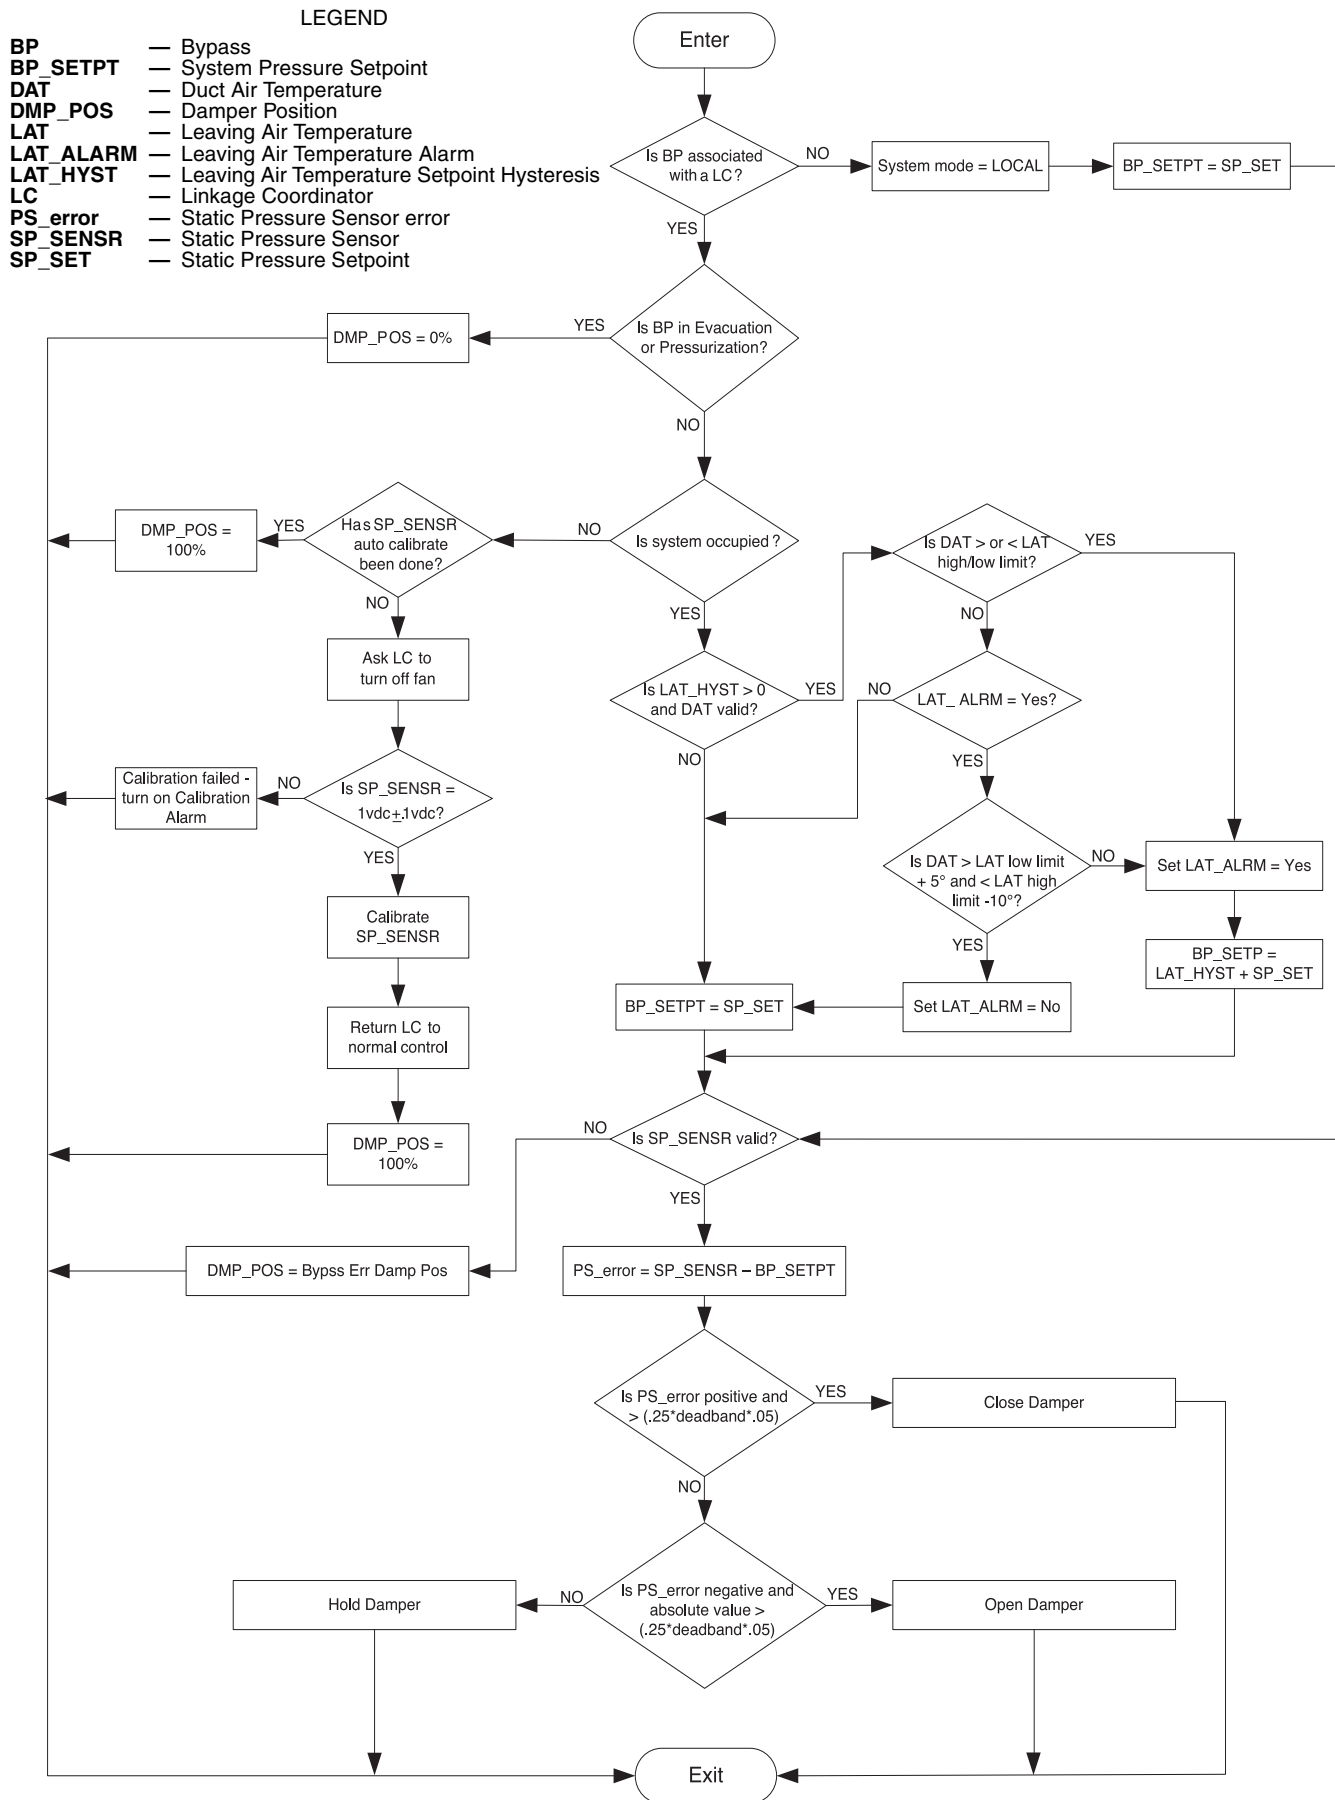

**Fig. 12 — Bypass Controller Operation Flow Chart**
**NORMAL OPERATION** — The bypass controller will modulate its damper to maintain the proper system static pressure set point. The bypass controller does this by comparing its pressure sensor input reading to the configured system static pressure set point and determining the error (sensor reading — set point). The bypass controller then compares the calculated error to the configured deadband value. If the error is greater than  $\frac{1}{4}$  of the deadband value (configured deadband times a constant of 0.05), then the bypass controller commands the damper to open or close (depending on the positive or negative value of the error). If the error is less than  $\frac{1}{4}$  of the deadband value, the bypass controller holds the damper position. If the pressure sensor fails, the bypass controller will move the damper to the configured Pressure Sensor Error Damper Position. See Fig. 12 for an operation flow chart.